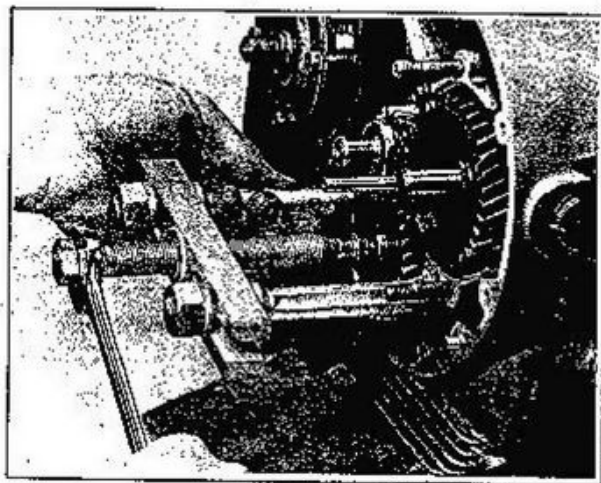

Figure 3D-34. Removing Oil Pump Drive Gear
Install oil pump scavenger line (9) in crankcase; be certain scavenger line gasket (10) is in place. Position oil pump assembly in crankcase, (see Figure 3D-32) making certain the oil return line rubber "O" ring (18) is in place. Place one copper washer (5) on each side of the scavenger line (9) and screw oil pump scavenger line connection (4) in oil pump. Do not tighten this fitting yet.